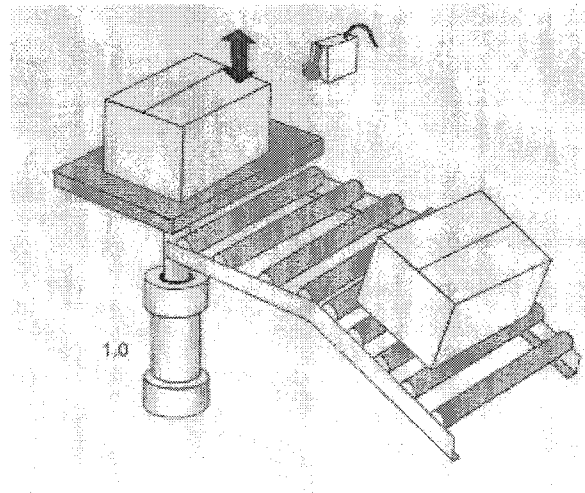

Figure 6
11. Boxes are lifted to conveyor height by a double acting cylinder (see Figure 6). The piston is to extend fully when a switch is operated. The piston must reach the fully extended position before the operator can initiate piston retraction by a second switch. A roller limit switch confirms full extension. The piston is to continue forward even if the extension switch is released before full extension is reached. The control panel is remotely located. A lamp is light up when the piston is fully extended. The process is to stop after 20 boxes are lifted.